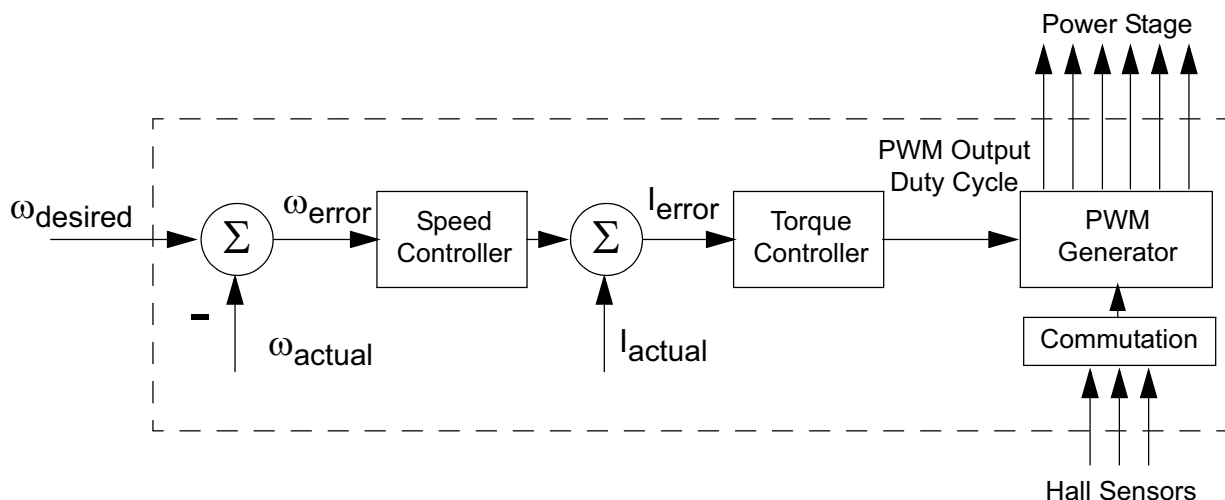

Figure 2-10. Combination of Speed and Torque Controllers
For applications requiring the motor to operate with a specified torque regardless of speed (e.g., in-line tensioning), a current controller can be used, since torque is directly proportional to current. In this mode, the speed will be held at the value set by the speed reference signal for all loads up to the point where the full armature current is needed. If the load torque increases further, the speed will drop because the current-loop will not allow more armature current to flow. Conversely, if the load attempted to force the speed above the set value, the motor current will be reversed automatically, so that the motor acts as a brake and regenerates power to the mains. The current controller is implemented as a conventional Proportional-Integral (PI) controller. The output from the speed controller will be input into the current controller, along with measured DCBus current. The output of the current controller will control the duty cycle of the PWM pulses. The combination of both speed and torque controllers is shown in **Figure 2-10**.